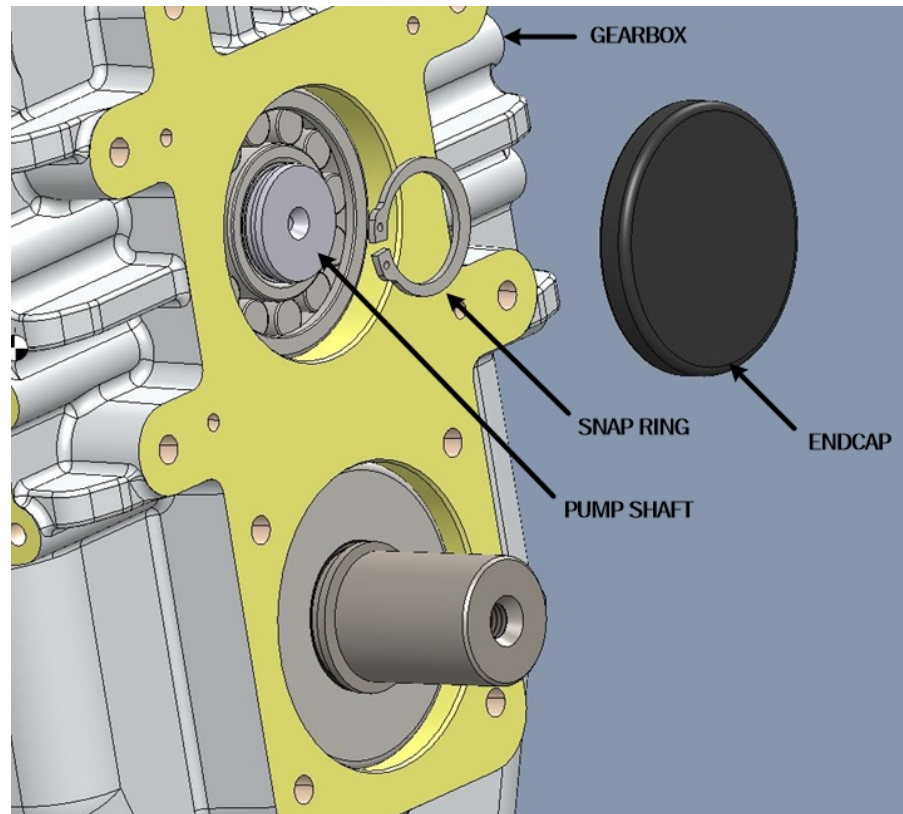

Figure 48. Pump Shaft Assembly
- B. Remove pump shaft snap ring. See Figure 48.